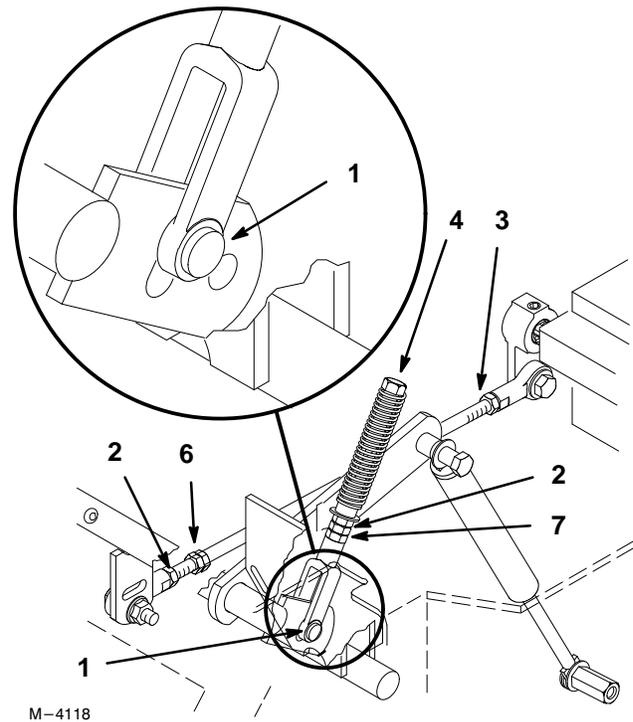

Figure 45
2. Begin with either the left or right motion control lever. Move lever to the neutral (but not locked) position and pull lever back until the clevis pin (on arm below pivot shaft) contacts the end of the slot (just beginning to put pressure on spring) (Fig. 45).
4. If adjustment is needed, loosen the nut against the yoke (Fig. 45).
5. Apply slight rearward pressure on the motion control lever, turn the head of the adjustment bolt in the appropriate direction until lever is centered in neutral lock position (keeping rearward pressure on the lever will keep the pin at the end of the slot and allow the adjustment bolt to move the lever to the appropriate position (Fig. 45).
- Loosen locknut at ball joint on pump control rod (Fig. 45).
- Adjust pump rod length by rotating double nuts on rod, in the appropriate direction, until wheel is still or slightly creeps in reverse (Fig. 45).